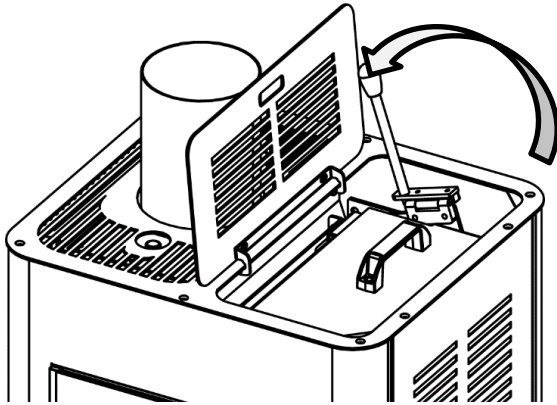

Fig.15
- Open the lid and move the pellet loading lever to position “Stop” (fig.15)